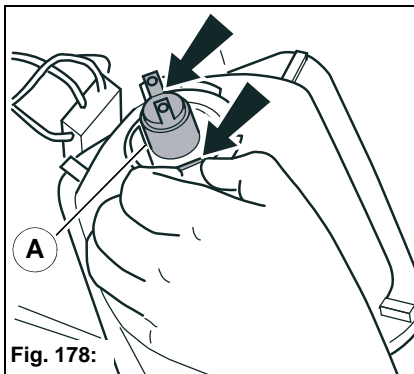

Fig. 178:
3. Press the tension spring **Fig. 178-A** down and to the side (see figure), hold the lamp by the socket and pull it out.